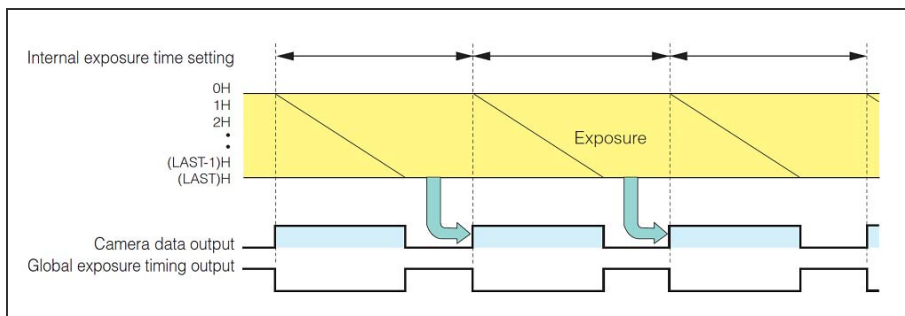
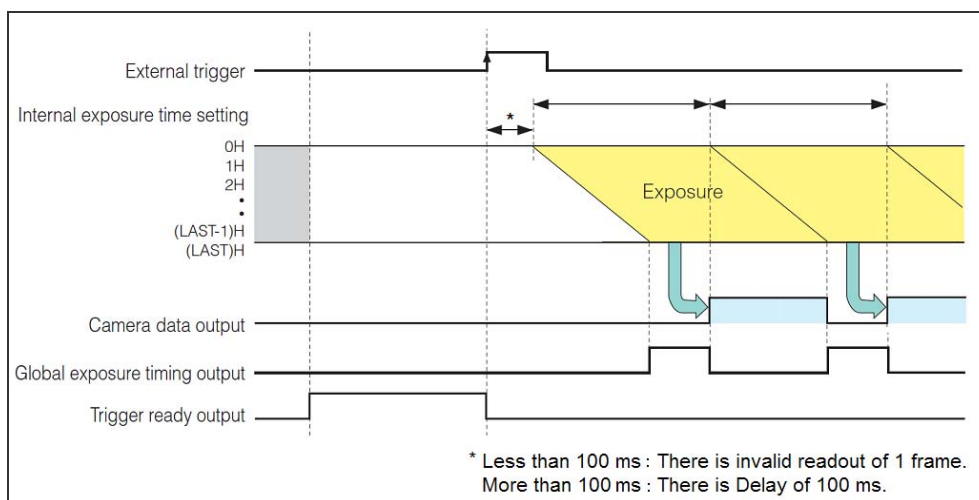

Figure 10-3
Figure 10-9 (Ex. rising edge)
- Please refer to Figure 10-3 to Figure 10-9 about details of each trigger output functions.